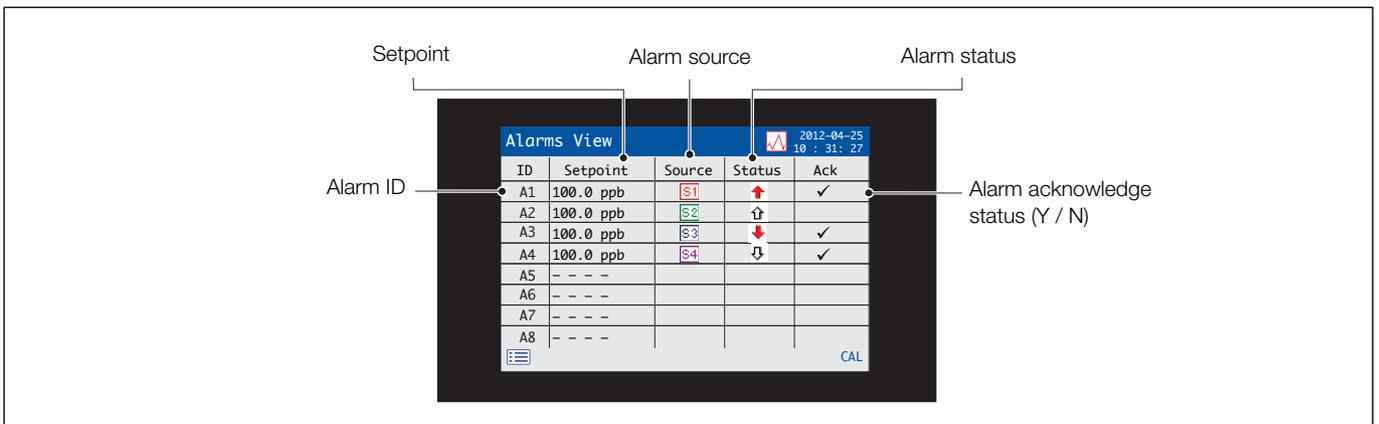

Fig. 6.7 Alarms View
- *Alarms View* – displays a list a list of alarms identified by priority (sequence number), source and status – see Fig. 6.7